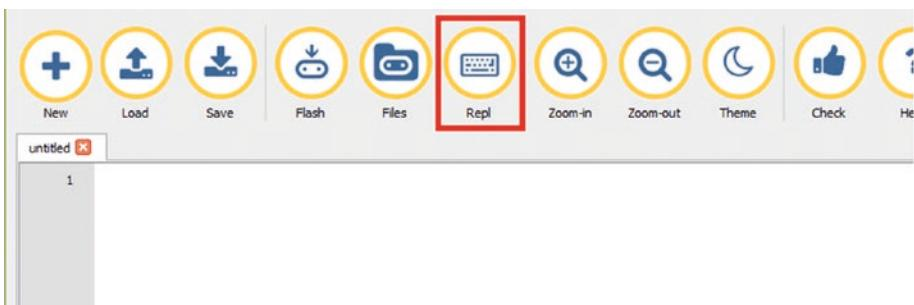

Figure 1-31. The Repl button
2. Then click the Repl button on the toolbar to open an interactive shell (see Figure 1-31).